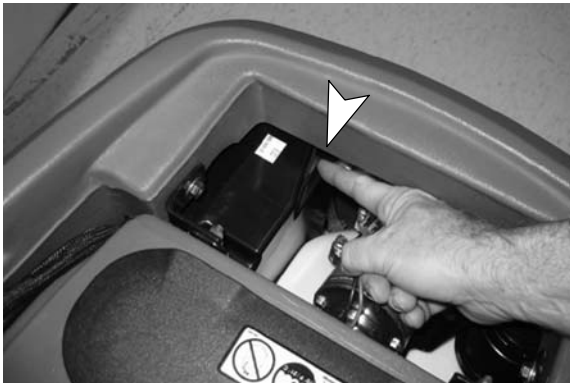

FIG. 59
5. Press and release the *ec-H2O* module flush switch to start the flush cycle (Figure 59). The module is located under the recovery tank.